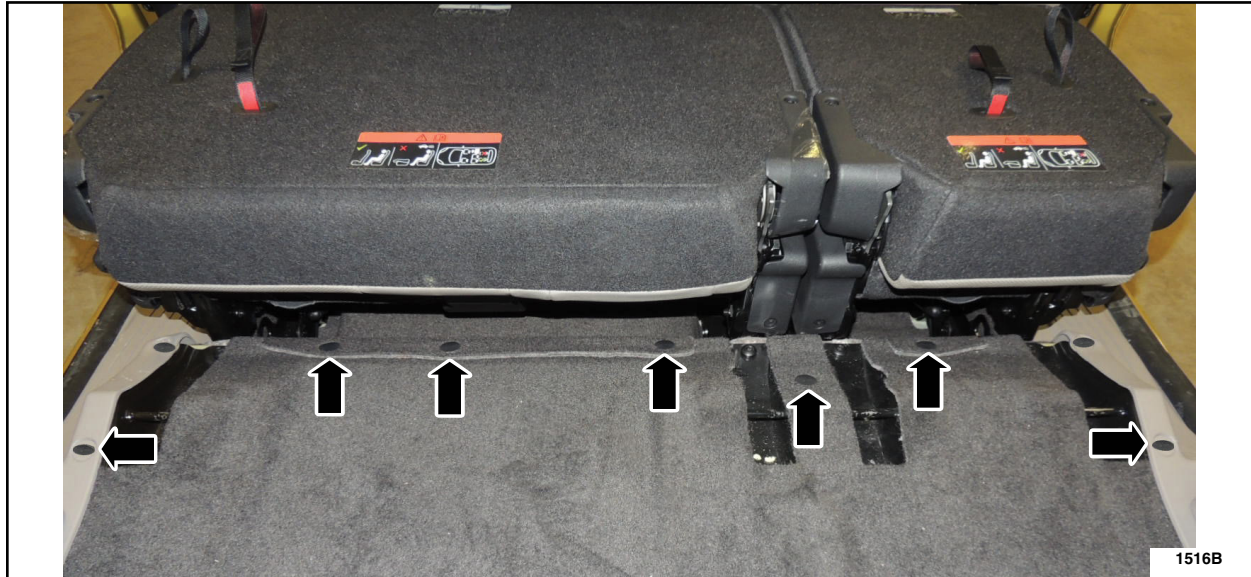

FIGURE 4
7. Remove the floor cover retaining push-pins. See Figure 4.
10. Install the floor cover retaining push-pins. See Figure 4.